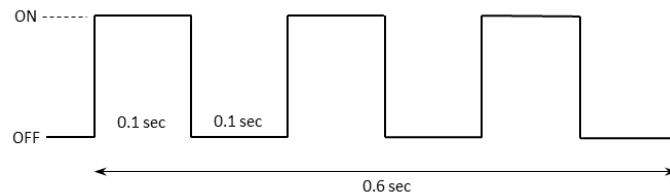

Figure 1-4: The RED LED Pattern Before Entering DEEP SLEEP
2. **RED** is toggled ON and OFF every 0.1 sec for 0.6 sec as shown in Figure 1-4.